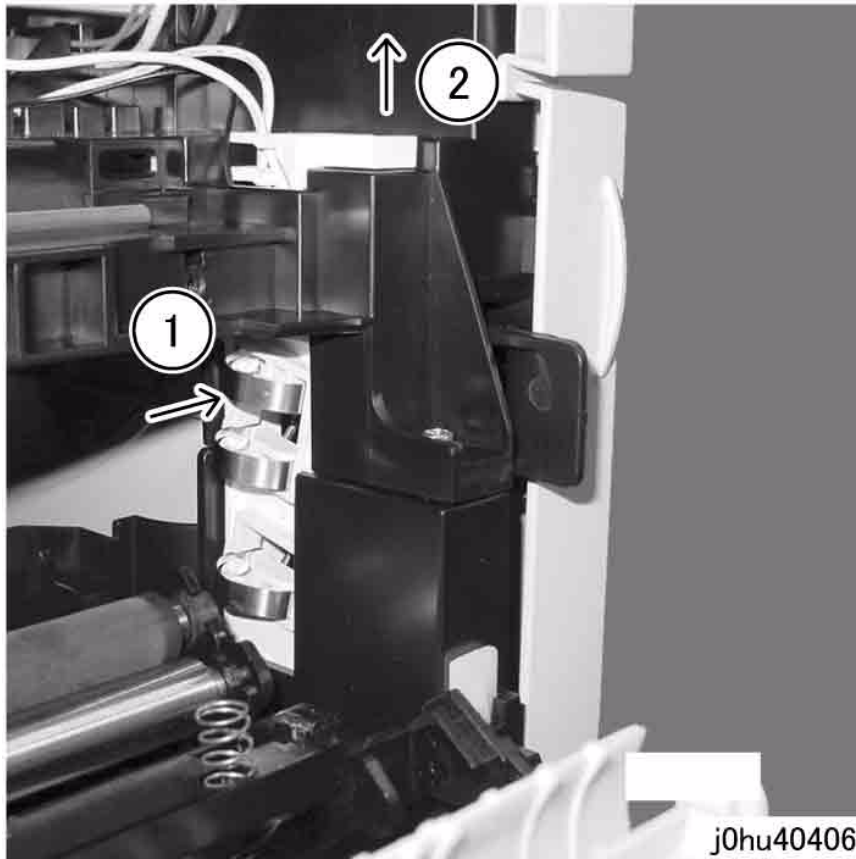

Figure 3 Remove Corotron Block
8. Remove the Corotron Block (Figure 3).